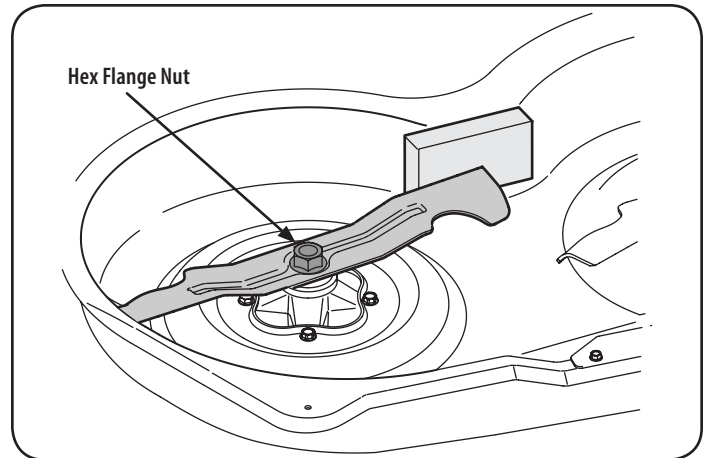

Figure 27
2. Place a block of wood between the center deck housing baffle and the cutting blade to act as a stabilizer. See Figure 27.